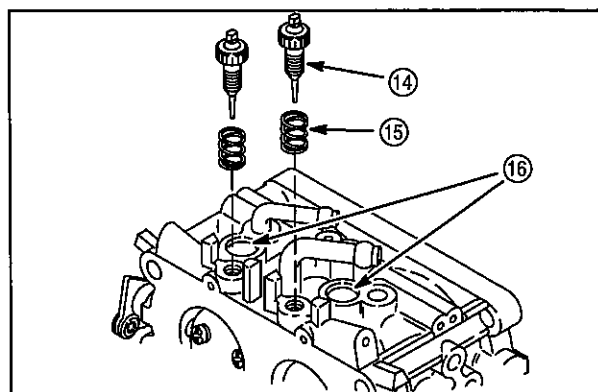

Fig. 71
7. Install new welch plugs (16) with 5/16" (8 mm) punch, **Fig. 71**.
9. Install idle mixture screws (14) and springs (15).